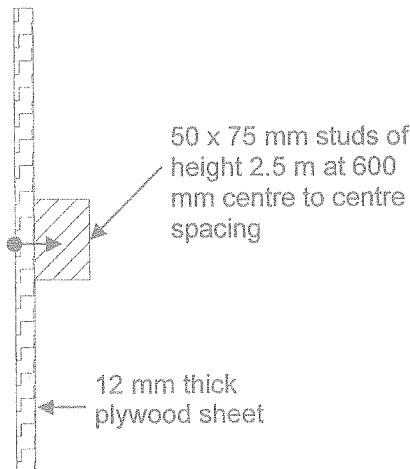

Figure Q1
- Q1. Figure Q1 shows a wall cladding used to construct an outer wall in a warehouse. This warehouse has plywood cladding screwed to timber studs. The warehouse is constructed at very dry windy environment with average wind suction of 1.75 kN/m2. 12 mm thick plywood sheets are attached using 4 mm diameter and 38 mm long countersunk headed screws. The strength class of the timber material is C14.